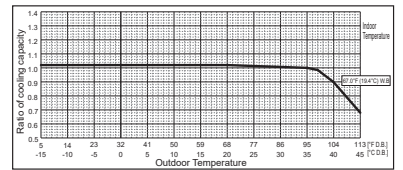

Figure 2 Outdoor unit temperature correction
(5) Outdoor Unit Correction Calculation
- Outdoor Design Dry Bulb Temperature Correction (98.6°F) 0.98 (Refer to Figure 2)